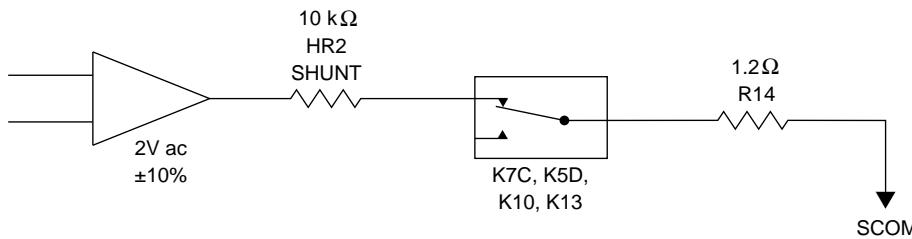

Figure 5-9. Verifying the 2.2 mA Range of the 220 μ A / 2.2 mA Amp Circuit
5. Check the 2.2 mA Range of the 220 μ A/2.2 mA AMP. Set the 5700A to 2 mA, standby. Set the external ac reference to 6.4V at 1 kHz. Measure the ac voltage at the collector of Q4 with a DMM and verify it is 2.0V ac $\pm 10\%$. If a failure is detected, first verify the 1 k Ω shunt on HR2 is correct and it's connected to SCOM through relays in K7A, K5D, K10, K13 and 1.2 Ω load resistor R14 as shown in Figure 5-9. If the shunt and output switching is correct check Q4, Q5, K3 and their associated components in the 220 μ A /2.2 mA AMP circuit.